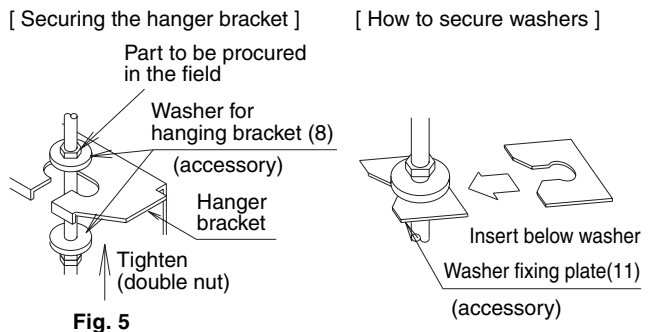

Fig. 5
**(1) Install the indoor unit temporarily.**
- Attach the hanger bracket to the suspension bolt. Be sure to fix it securely by using a nut and washer from the upper and lower sides of the hanger bracket. (Refer to Fig. 5)